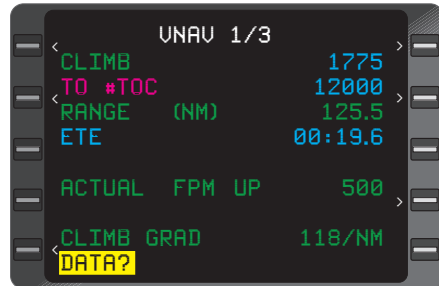

Figure 3-140
4. **ENT** Key - DEPRESS and observe the change in **RANGE** and **ETE**. (Figure 3-140)